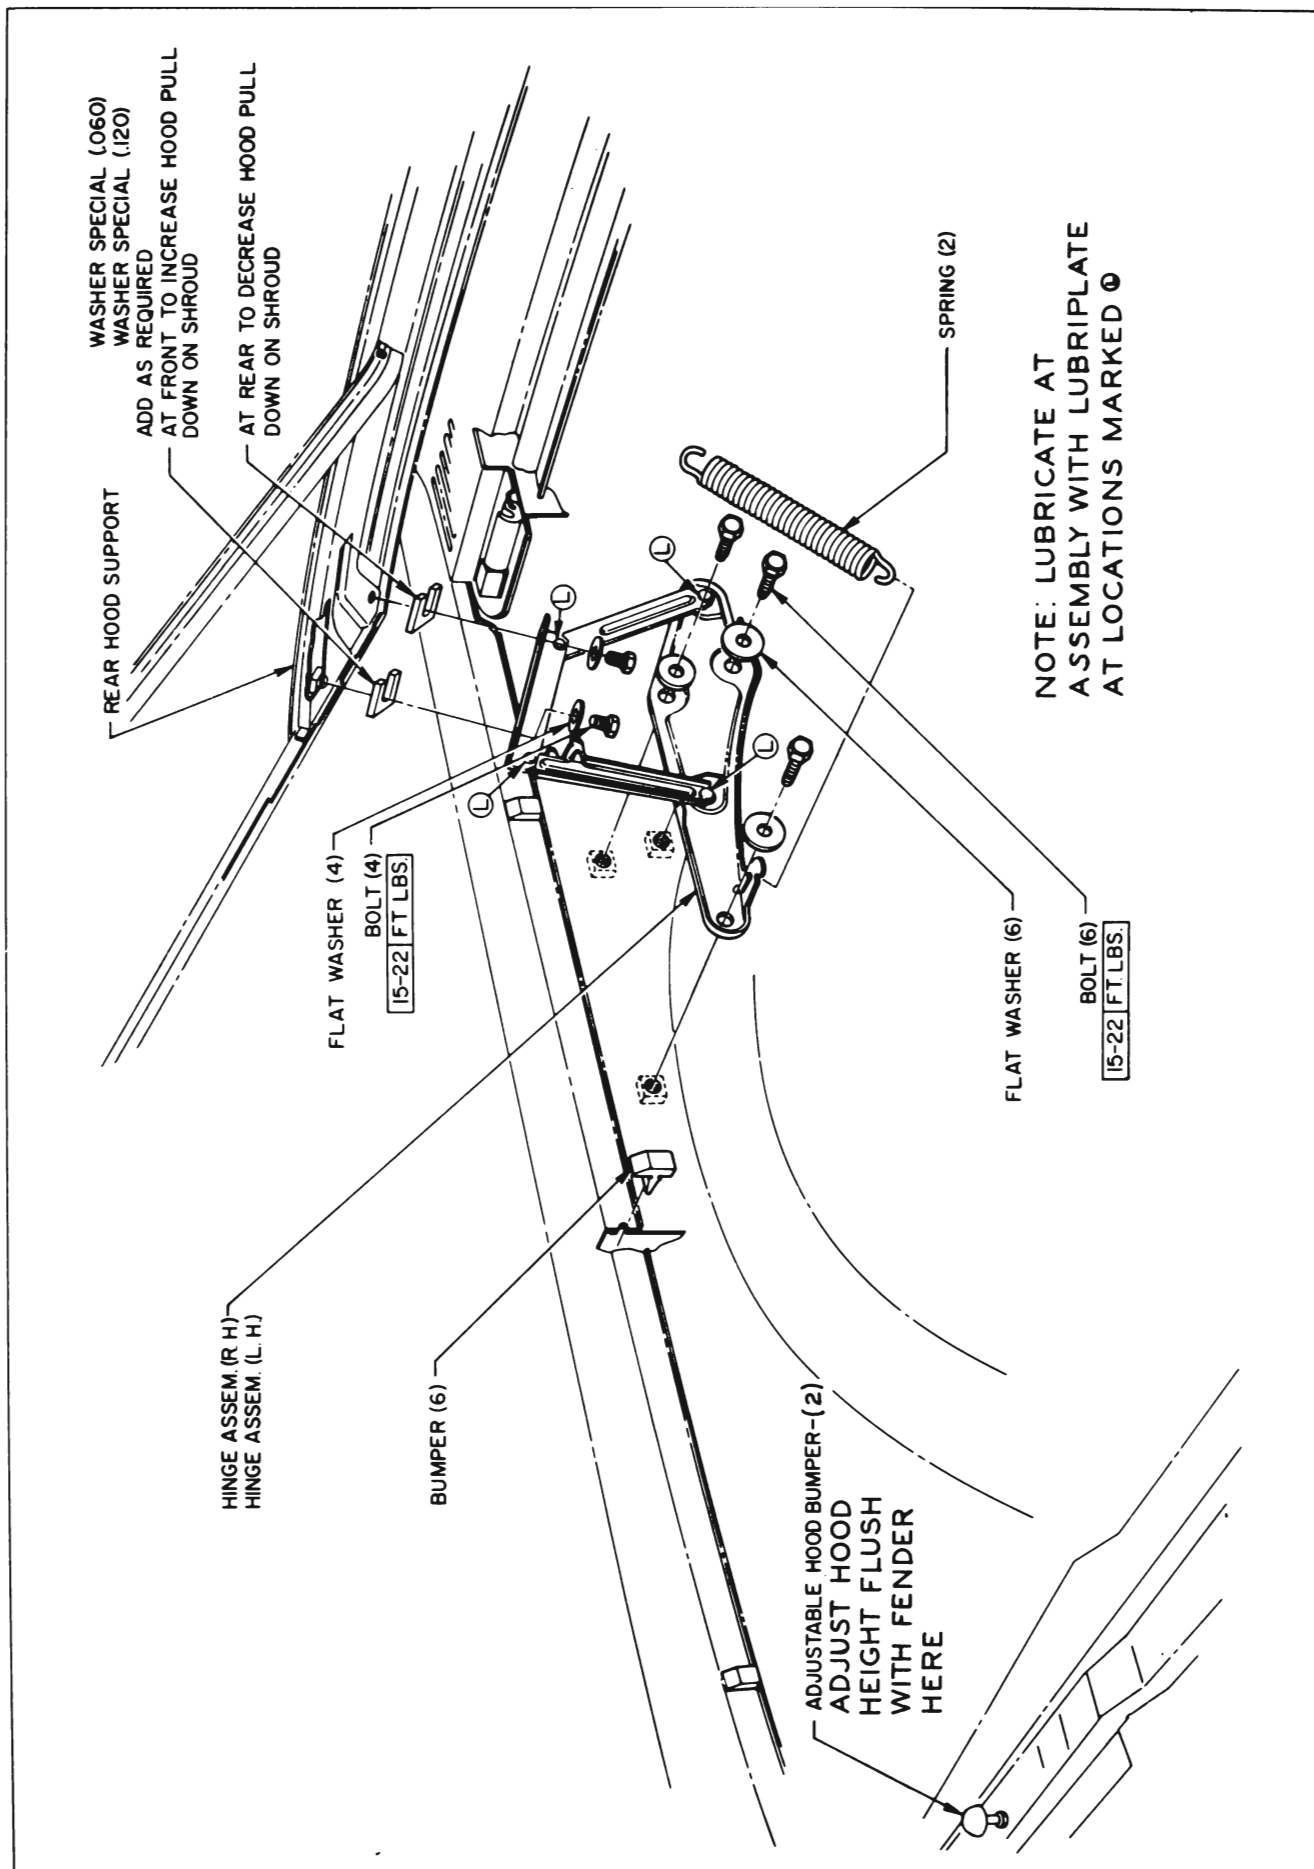

Figure 12-2—Hood Hinge Installation
3. Remove four hood hinge bolts as shown in (Figure 12-2.)
1. Rear Height. Rear hood height is determined by special washers between hinge and hood. Removing or adding washers will shift rear of hood up or down with respect to hinge. (See Figure 12-2.)
2. Rear Tension. Too little tension is indicated if the rear hood area flutters. To increase tension, add special washers between the hood and the hinges at the front bolts. (See Figure 12-2.)
Too much tension is indicated if the rear area of the hood bends as it is closed. To decrease tension, add special washers between the hood and the hood hinges at the rear bolts. (See Figure 12-2.)
3. Scribe position of the hinge attachment on wheelhouse. Remove the three bolts attaching the front of the hinge to the wheelhouse (fig. 12-2) and remove the hinge.
the rubber bumpers and lacing attached to cowl ledge. The hood may be raised or lowered by adjustment at hinges. See Figure 12-2.